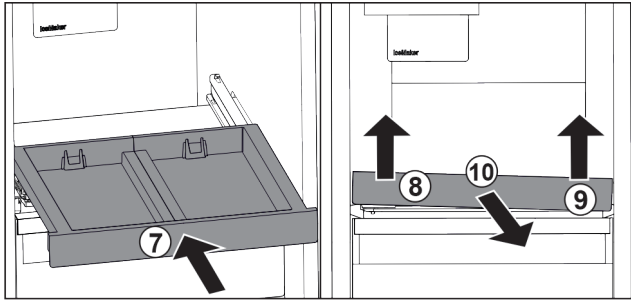

Fig. 31
- ▶ Slide in the pull-out board. Fig. 31 (7)
- ▶ Lift the pull-out board at the front left. Fig. 31 (8)
- ▶ Lift the pull-out board at the front right. Fig. 31 (9)
- ▶ Take out the pull-out board to the front. Fig. 31 (10)